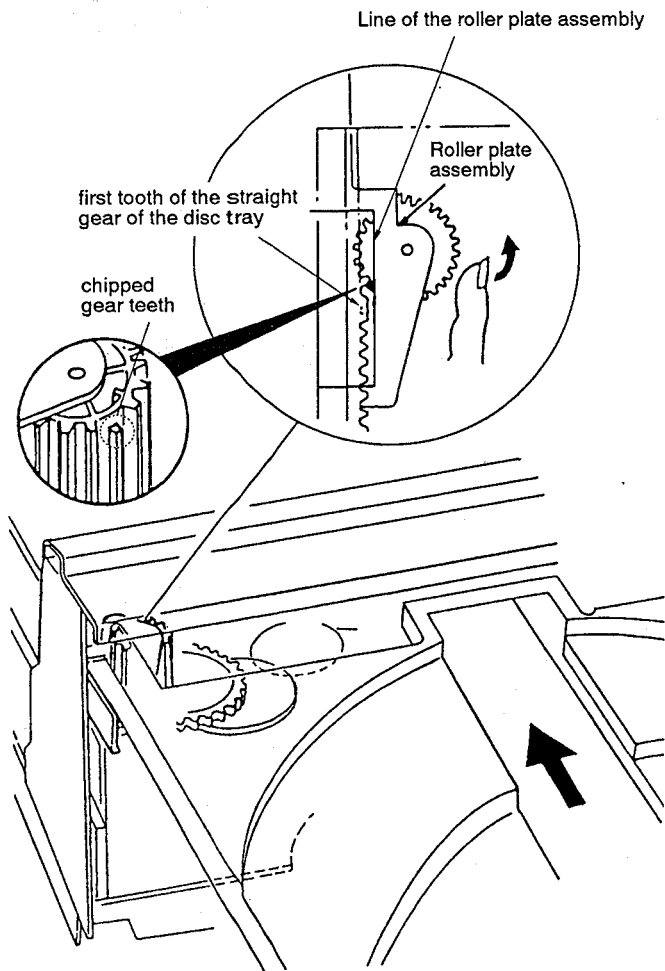

Fig. 19
- ① Adjust the gear positions in the loading mechanism for the disc tray open status, as ㉓ and ㉔ mentioned below.
- ② The top of one of the gear teeth of the roller plate assembly has been chipped off. Finely adjust the position of this chipped tooth by turning the gear counterclockwise so that the tooth comes halfway on the roller plate line.(Fig.19)